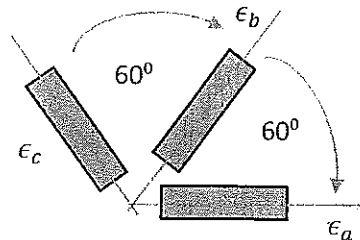

Figure Q6
- (iv) The stress state of a certain bracket was determined using a strain rosette as shown in Figure Q6.